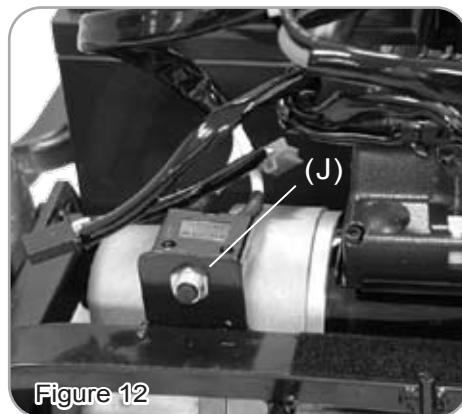
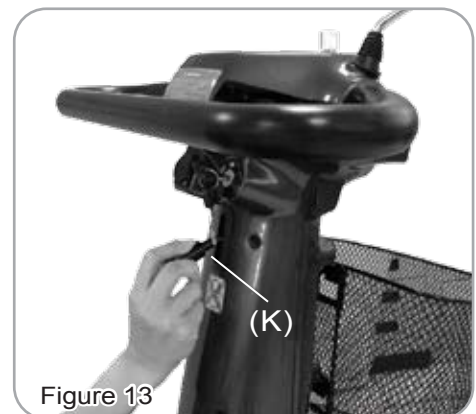

Figure 12
Figure 13
1. Before driving, to engage the free-wheeling lever (I) by push the lever downward.
- CIRCUIT BREAKER (See Fig. 12)
- 1.If the scooter's circuit system malfunction or over loaded, the circuit breaker (J) will automatically switch off the power to ensure safety.
- TILLER ANGLE ADJUSTMENT (See Fig. 13)
- 1.To adjust tiller angle by pushing down the tiller angle adjustment (K).